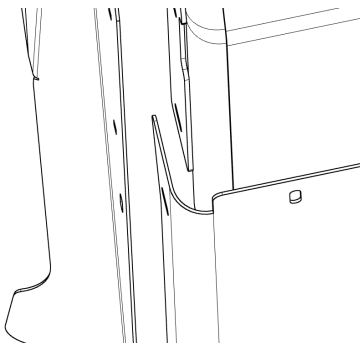
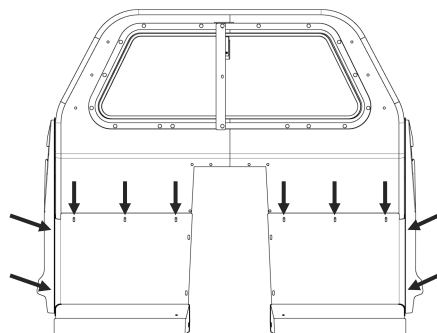
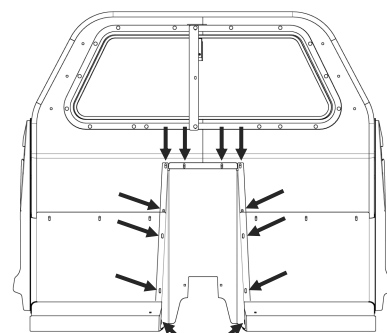

Figure 7a
Figure 7b
Figure 7c
- C. Place the Driver Lower Extension Panel [3LEP472000] into the vehicle and slide the outside flange between the partition and the mounting plate (Fig 7a). Align the three holes at the top of the panel and the two holes along the outside of the panel with their respective holes in the partition and the mounting plate (Fig 7b).
- D. Loosely install a carriage bolt [3X36] with whiz nut [3X16Z] into each of the (5) holes identified in the previous step. Install the fasteners such that the smooth head of the carriage bolt is facing towards the rear of the vehicle.
- F. Slide the Recess Panel forward and align all (12) holes with their respective holes in the partition and lower extension panels (Fig 7c).
- G. Loosely install a carriage bolt [3X36] with whiz nut [3X16Z] into each of the (12) holes identified in the previous step. Reuse the fasteners that were removed from the cover plate in step (A). Install the fasteners such that the smooth head of the carriage bolt is facing the rear of the vehicle.